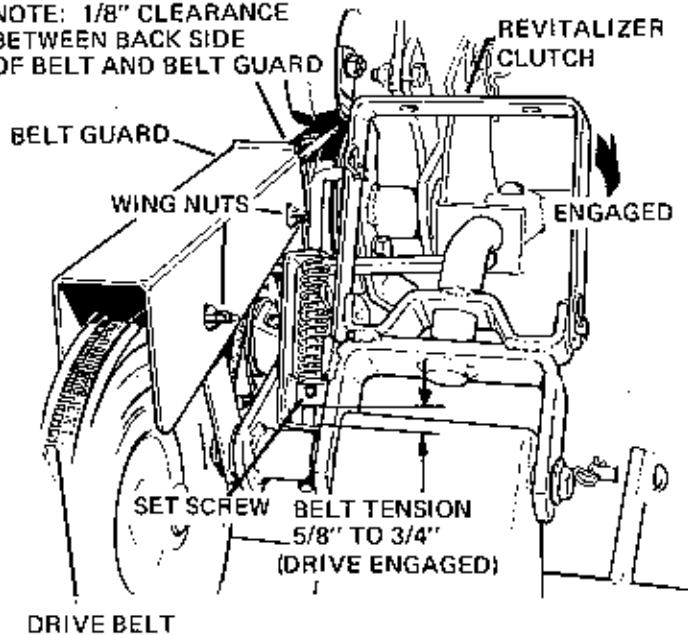

FIGURE 7
(See figure 7) The Revitalizer drive is engaged by pulling forward on the clutch lever mounted on the revitalizer. This can be done from the tractor seat simply by reaching around and pulling the clutch ahead. The revitalizer will be disengaged if the lever is pushed back, away from the tractor.
(See figure 7) Tension on the revitalizer drive belt is regulated by the position of the set collar in the rod guide assembly of the revitalizer clutch. Belt tension is correct when there is 5/8" to 3/4" clearance between the set collar and the lower end of the rod guide assembly when the revitalizer clutch is engaged. To increase belt tension, disengage the revitalizer clutch and loosen the set screw in the collar. Move the rod down slightly to reposition it under the set collar and retighten the set screw. Check the clearance by engaging the revitalizer clutch. Do not operate the revitalizer with more than 3/4 inch clearance between the set collar and rod guide as the excessive tension may cause premature belt and bearing failure.
(See figure 7) The belt guard mounted over the revitalizer drive belt should be adjusted so there is at least 1/8" clearance between the guard and the belt when the revitalizer clutch is engaged to assure the backside of the belt does not rub against the guard. If it is necessary to adjust the guard, loosen the two wingnuts and reposition the guard correctly.
3. (See figure 7) Remove the two wingnuts holding the belt guard in place over the drive belt. Remove the belt guard.
6. (See figure 7) Place the new belt over the revitalizer pulley and replace the belt guard.